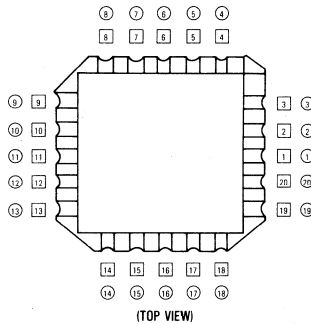
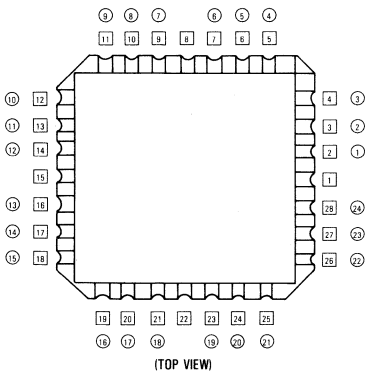

Figure 3: 20-Lead Pin-out for 20 Terminal Chip Carrier
Figure 4: 24-Lead Pin-out for 28 Terminal Chip Carrier
3. Devices requiring 20 connections in a 20 pad chip carrier, see Figure 3.
- B. Twenty-eight (28) Lead:
1. Devices requiring 24 connections in a 28 pad chip carrier, see Figure 4.